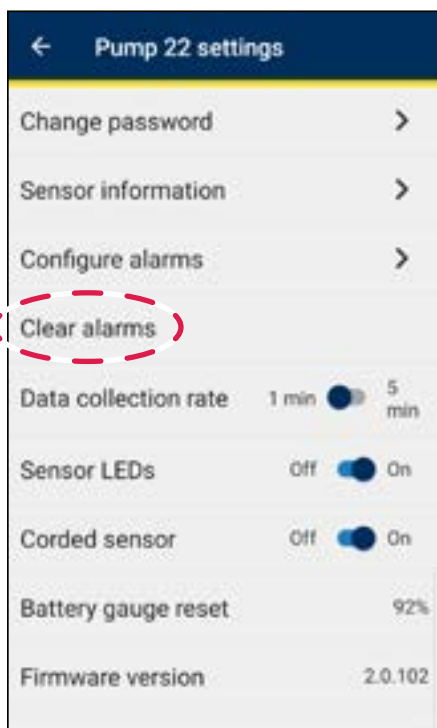

Figure 28
3. Select **Clear Alarms** (see figure 28).